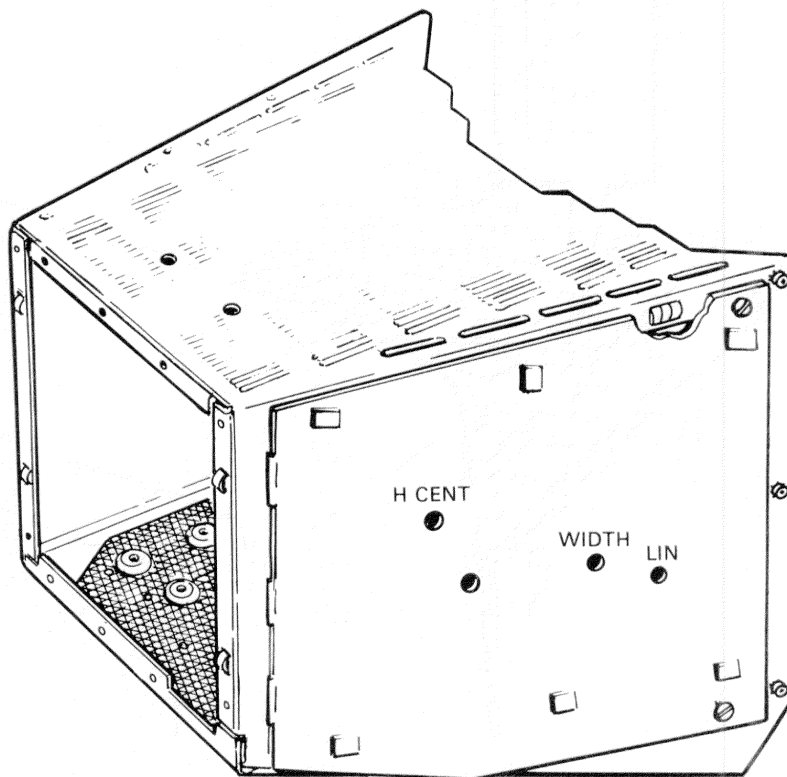

Figure 6-23 VR260 Monitor Adjustments,
- c. On the left side of the chassis (Figure 6-23), adjust LIN (horizontal linearity) for horizontally uniform squares across the display. Note that the display size should be near or at maximum, and positioned toward the left of the screen.